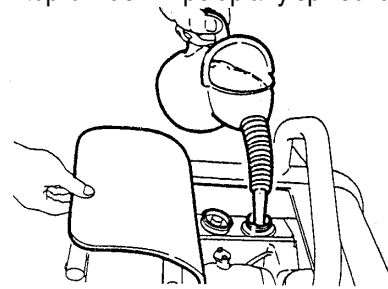

Figure 9. Refueling
2. Visually inspect to see if fuel level is low. If fuel is low, replenish with diesel fuel (Figure 9).